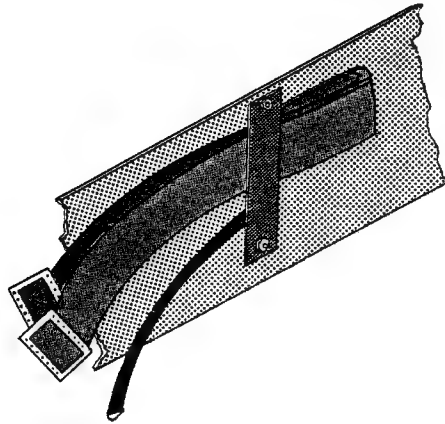

Figure 4-E. Final Cable Assembly Installation
3. With the cable sockets properly inserted, fold the excess flat cable once against the back panel slot. Secure the cable(s) with the metal plate supplied with the 680b back panel and the two #4-40 x 5/8" screws supplied with the Universal I/O Board as shown in Figure 4-E.